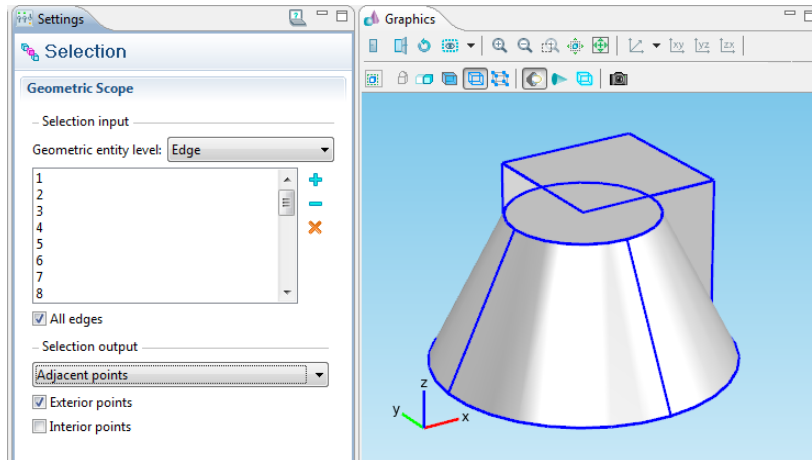
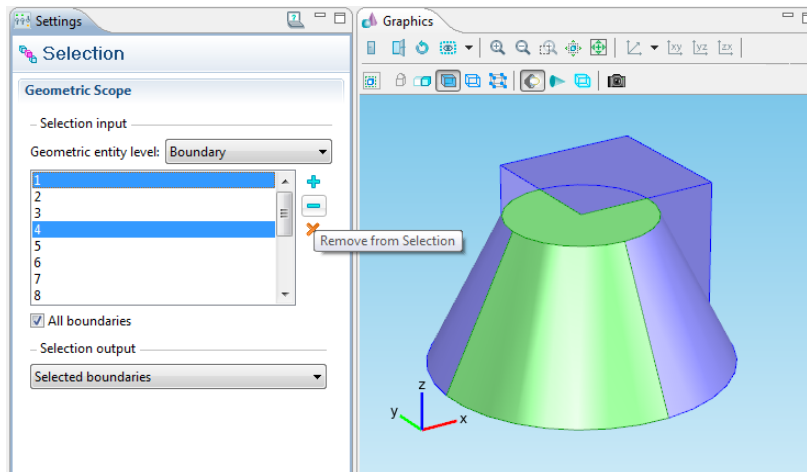

Figure 4-7: Adding all 3D edges to a selection.
Figure 4-8: Selecting individual boundaries to remove from a selection list.
- 3** Under **Geometric Scope** add geometric entities to the **Selection input**. See Figure 4-7 and Figure 4-8 for examples and Selecting and Deselecting Geometric Entities for the different ways to select geometric entities.